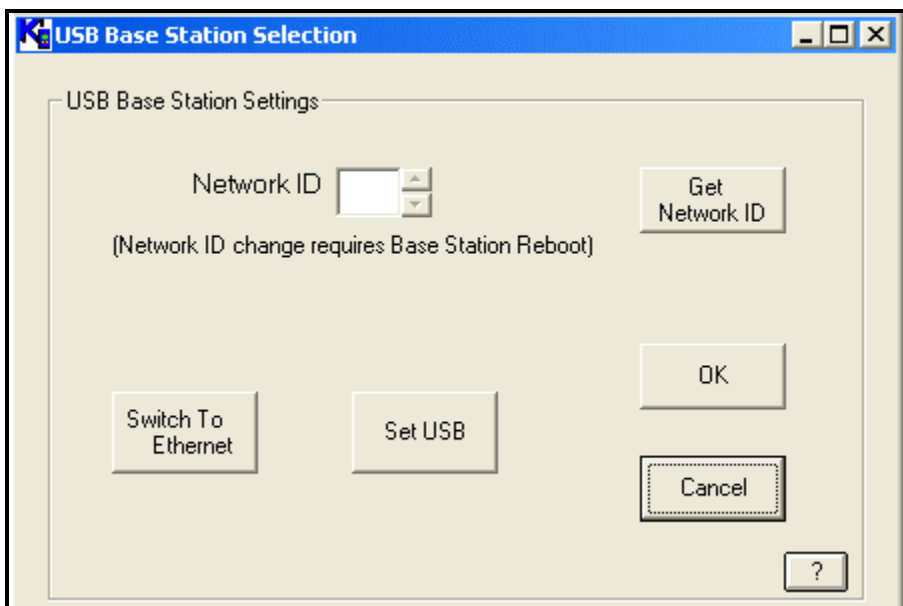

Figure 23: USB Base Station Settings
1. If you need to change the Base Station settings, click the **Change Base Stations Settings** button. The USB Base Station Settings window opens, as shown in Figure 23 below.